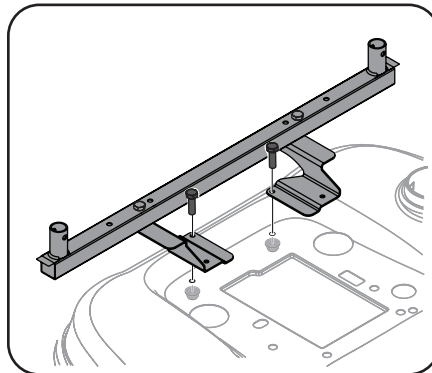

Figure 3-8
4. Use two Hex Head Capscrews (710-0376) and two Nuts (712-04063) to install the Support assembly on rear of tractor as shown in Figure 3-8.